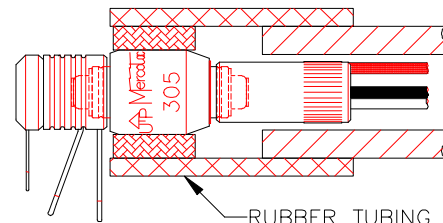

Fig 6 Vibration Isolation
8. Vibration and mechanical shock will reduce life or cause connector failure. Some installations may require a shock isolating mounting, such as rubber tubing. <Fig 6>